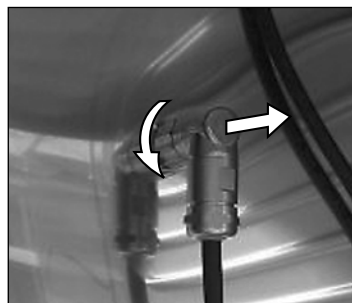

Fig. 34 Open the bayonet catch and pull off the plug
1. Loosen the connection of the illumination box in the interior. To do so, turn the bayonet catch to the left and pull out the plug (Fig. 34).